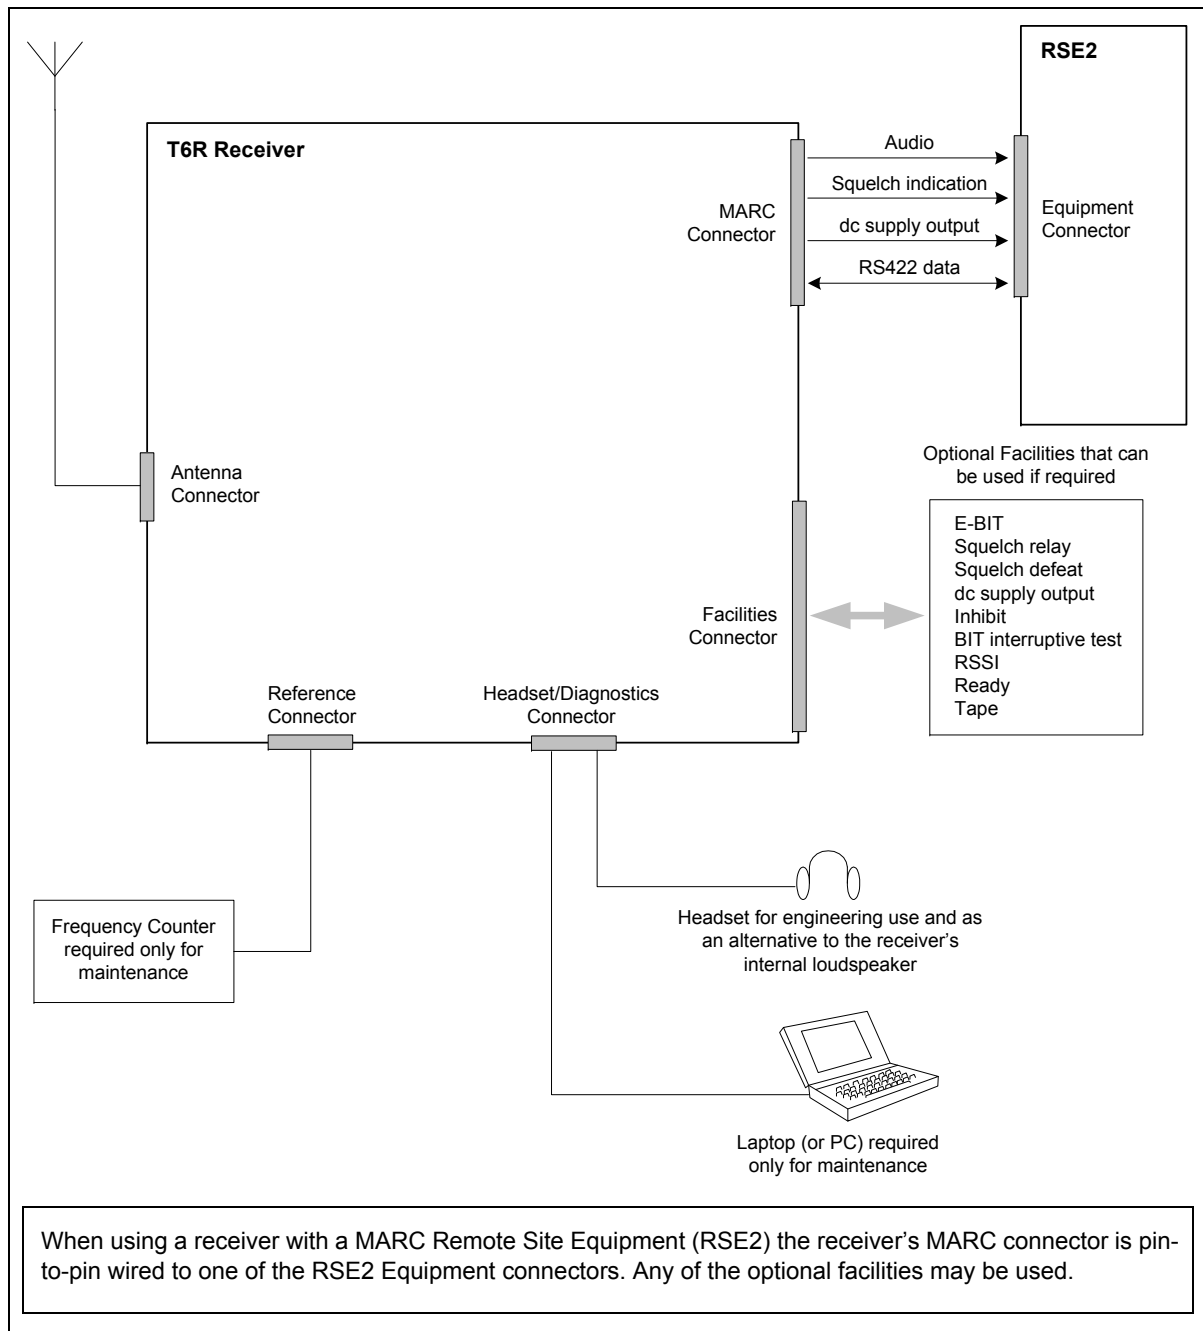

Fig 4-3 Receiver Configured for use with an RSE2
- ❑ Receiver configured for use with an RSE2 (see Fig 4-3)